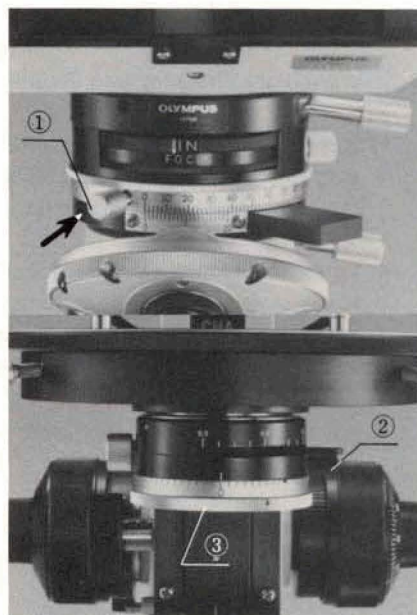

Fig. 4
1) Push the analyzer ① into the light path, and make sure that both polarizer and analyzer are set at position "0" to attain the "Crossed filter" position. Then loosen the clamping screw ② of the condenser. (Fig. 4)
2) Remove the specimen out of the light path so that a transparent area comes into the light path. Keeping the polarizer at the "0" position, rotate the polarizer rotation ring ③ until the optimum extinction is obtained, then clamp the ring. (Fig. 4)